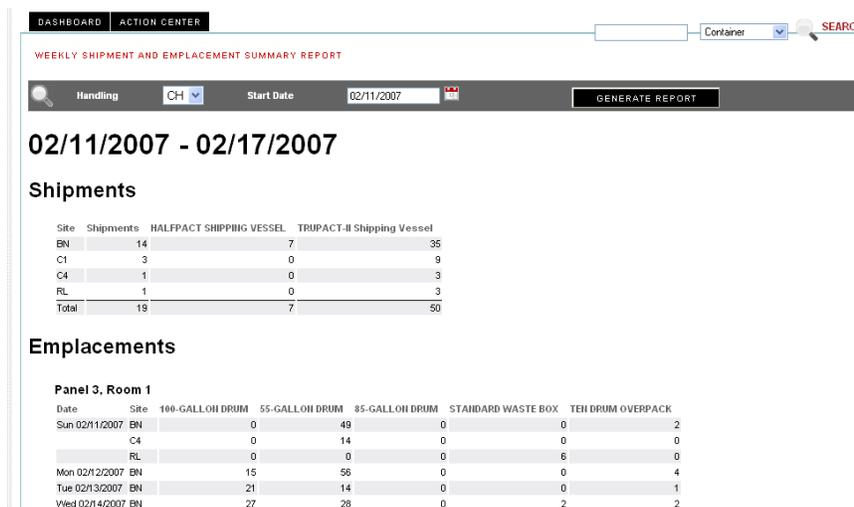

Figure 6-14 - Weekly Shipment and Emplacement
6.10.3 Select **Generate Report** as shown in Figure 6-14.